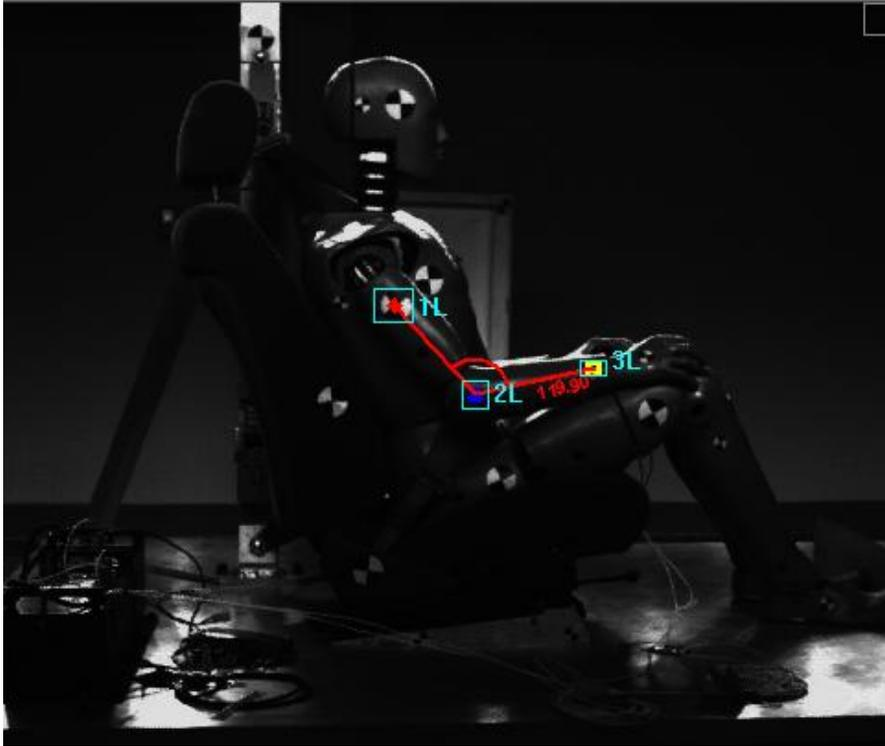

Figure 13. 3-point angle
19. On the Feature Tracking control panel, select **Show None** or **Show Current** from the Show Points dropdown menu. Click on the Play controls to see the video play with the dynamic angle measurement shown in every frame. Notice that the angle measurement decreases and increases as the arm moves. Figure 13 shows an example of a 3-point angle.